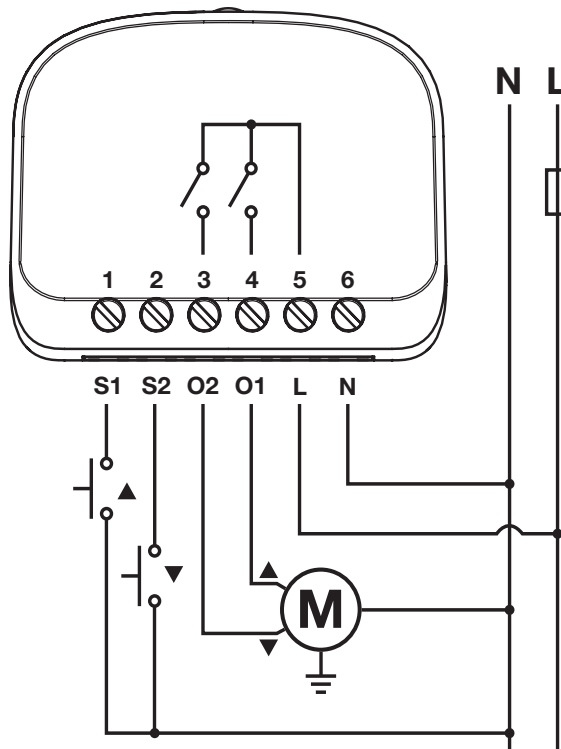

Figure 2: Wiring diagram of the BiDi-Shutter
If required, external, momentary pushbuttons can be connected to terminals S1 and S2, which can control the unit directly. The pushbuttons are connected between neutral (N) and terminals S1 and S2 as shown in Figure 2. The pushbutton connected to S1 is responsible for Up movement, and the pushbutton connected to S2 is responsible for Down movement.